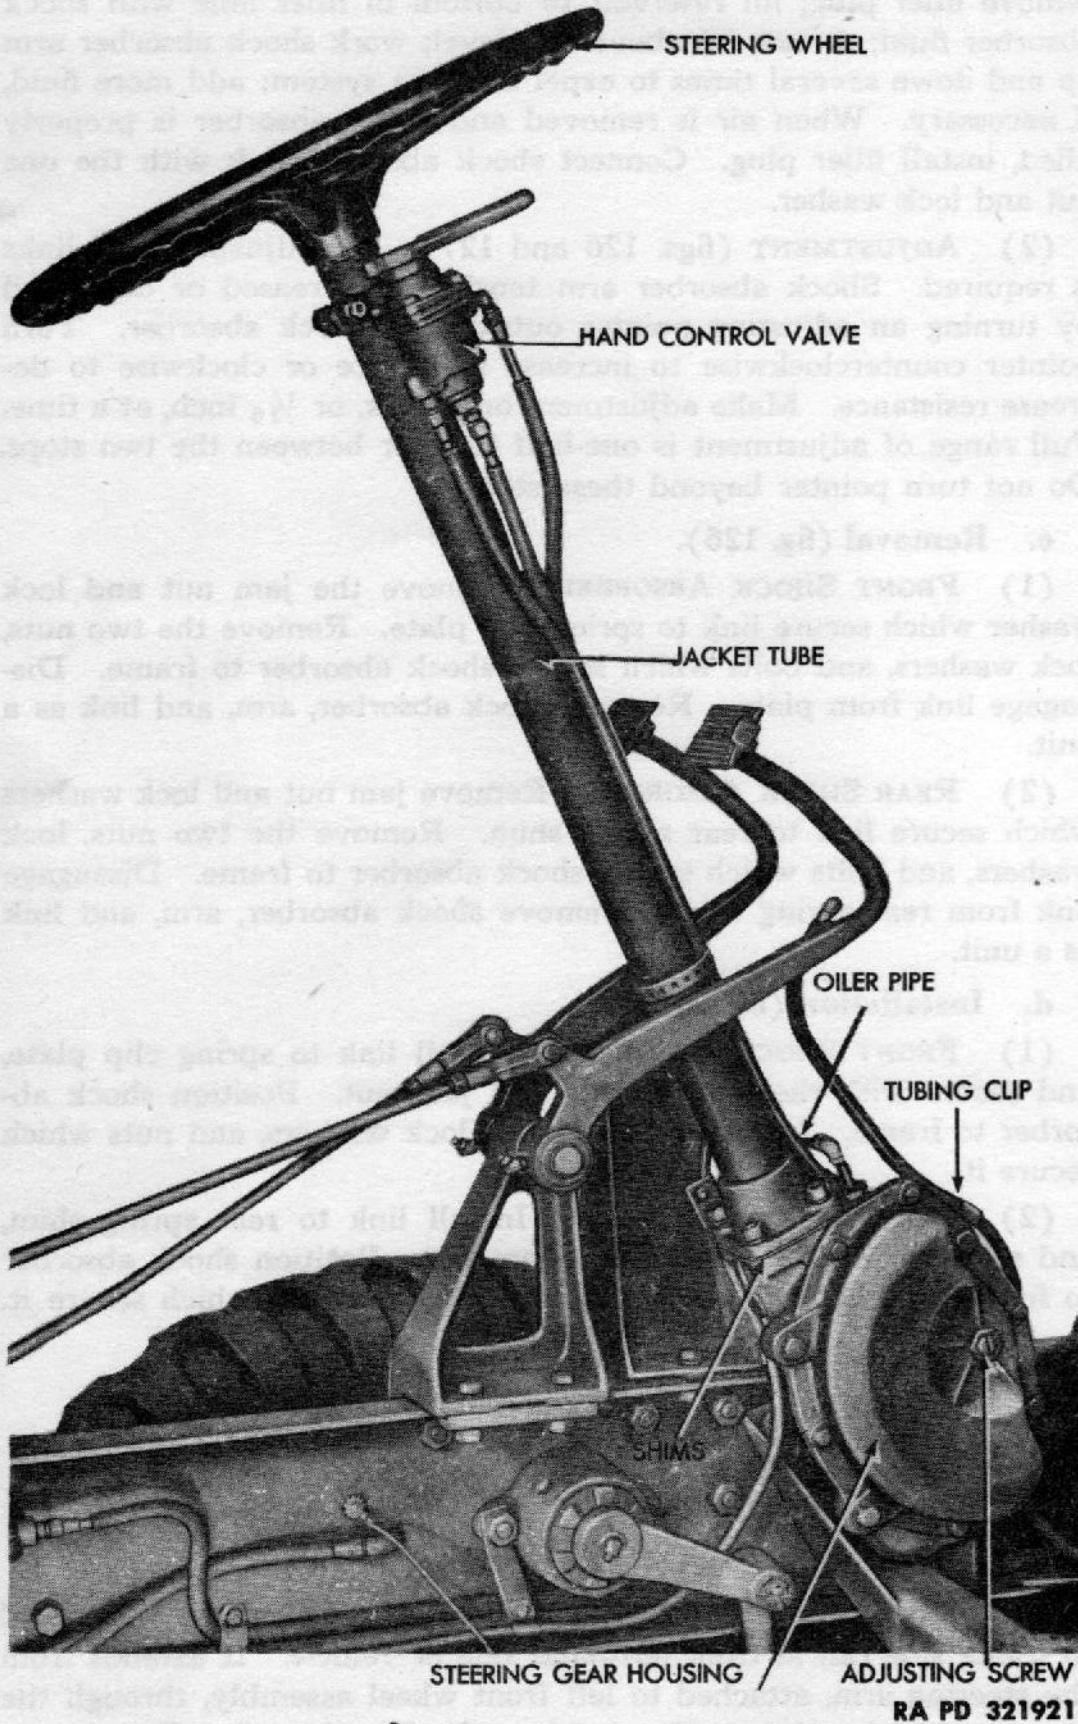

Figure 128 - Steering Gear Installed
a. **Description** (figs. 128 and 129). The steering gear is attached to frame side rail at front left-hand side of vehicle. It extends from the steering arm, attached to left front wheel assembly, through the steering gear housing to the steering wheel in the cab. The gear is the conventional roller-mounted, twin-lever type. Turning action of